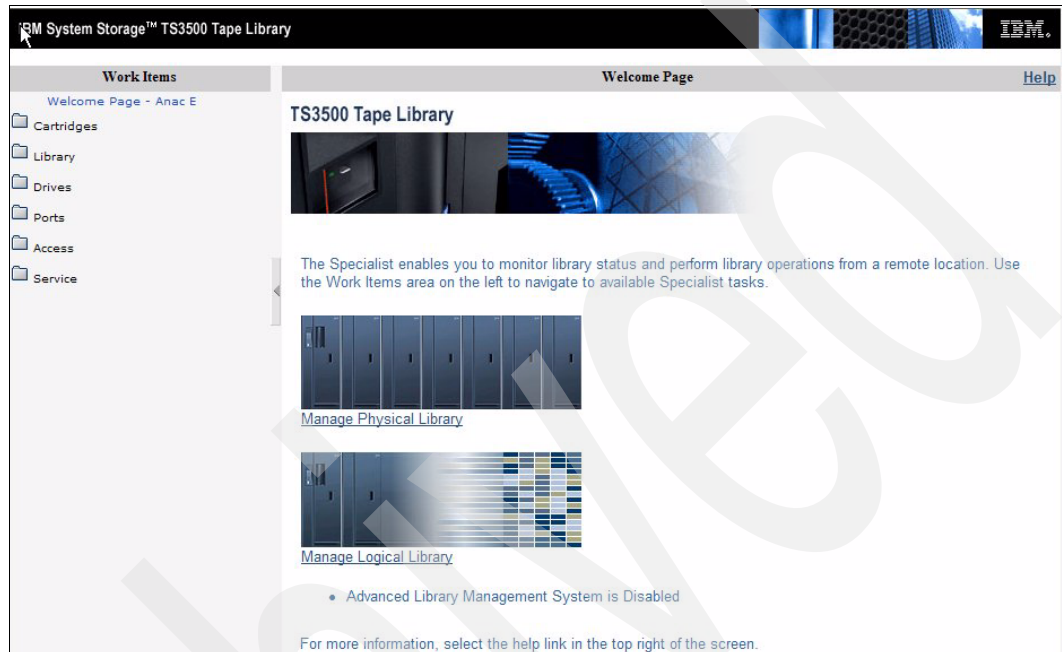

Figure 2-22 IBM TS3500 Tape Library Specialist: Welcome page
3. After configuring the network connection for the IBM Tape Library Specialist, enter the TCP/IP address of the library in your browser. The welcome page of the IBM TS3500 Tape Library Specialist Web interface displays, as shown in Figure 2-22. With the Specialist, you can monitor library status and perform library operations from a remote location. Use the Work Items area on the left to navigate to available Specialist tasks. For more information, click the **Help** button in the top right of the panel.
1. Enter the library's IP address as a Web site in your browser window; the introduction window displays (see Figure 2-22 on page 45). If login security is enabled, there is a login prompt first.